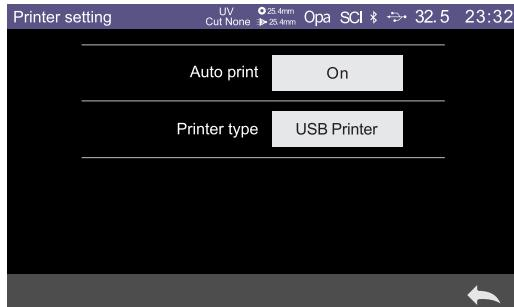

Figure 32 Printing setting
- 4、Connect the micro printer to the instrument via USB or Bluetooth (Bluetooth printer required); Bluetooth print Settings are shown in Figure 32. Click search to select the device;